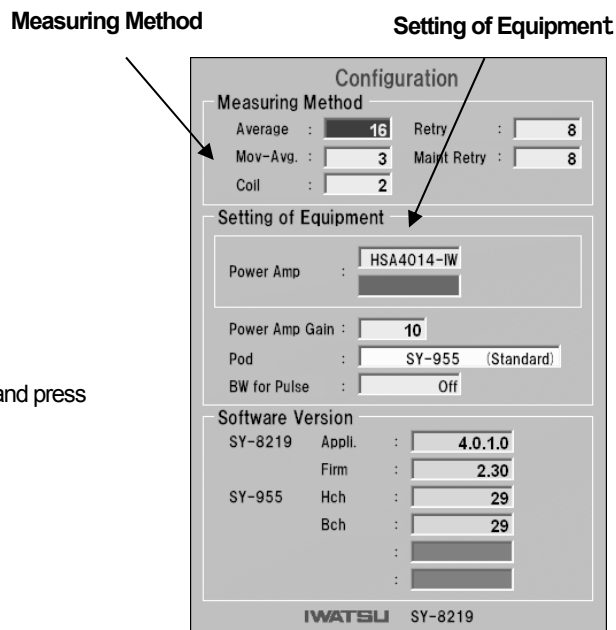

Fig.5-2 Configuration screen
① Press  to display Configuration screen (see Fig.5-2).
② Move the edition cursor to List Box of a measurement item for which
② Move the edition cursor to List Box of a measurement item for **Setting of Equipment** to be changed and press .
③ When Popup List opens, move the edition cursor to the item to be set and press  to determine the selection.